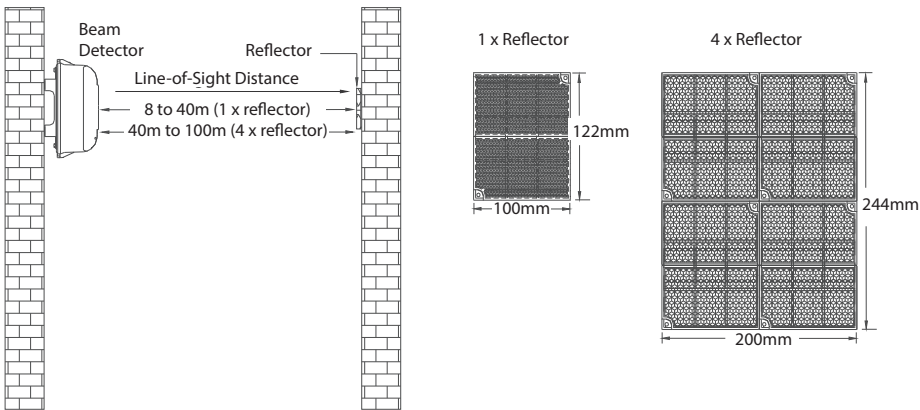

Figure 6. Mounting of EF-CBD130-R Reflector Reflector
3. Fit the reflector with suitable fixings. Refer to Figure 6.